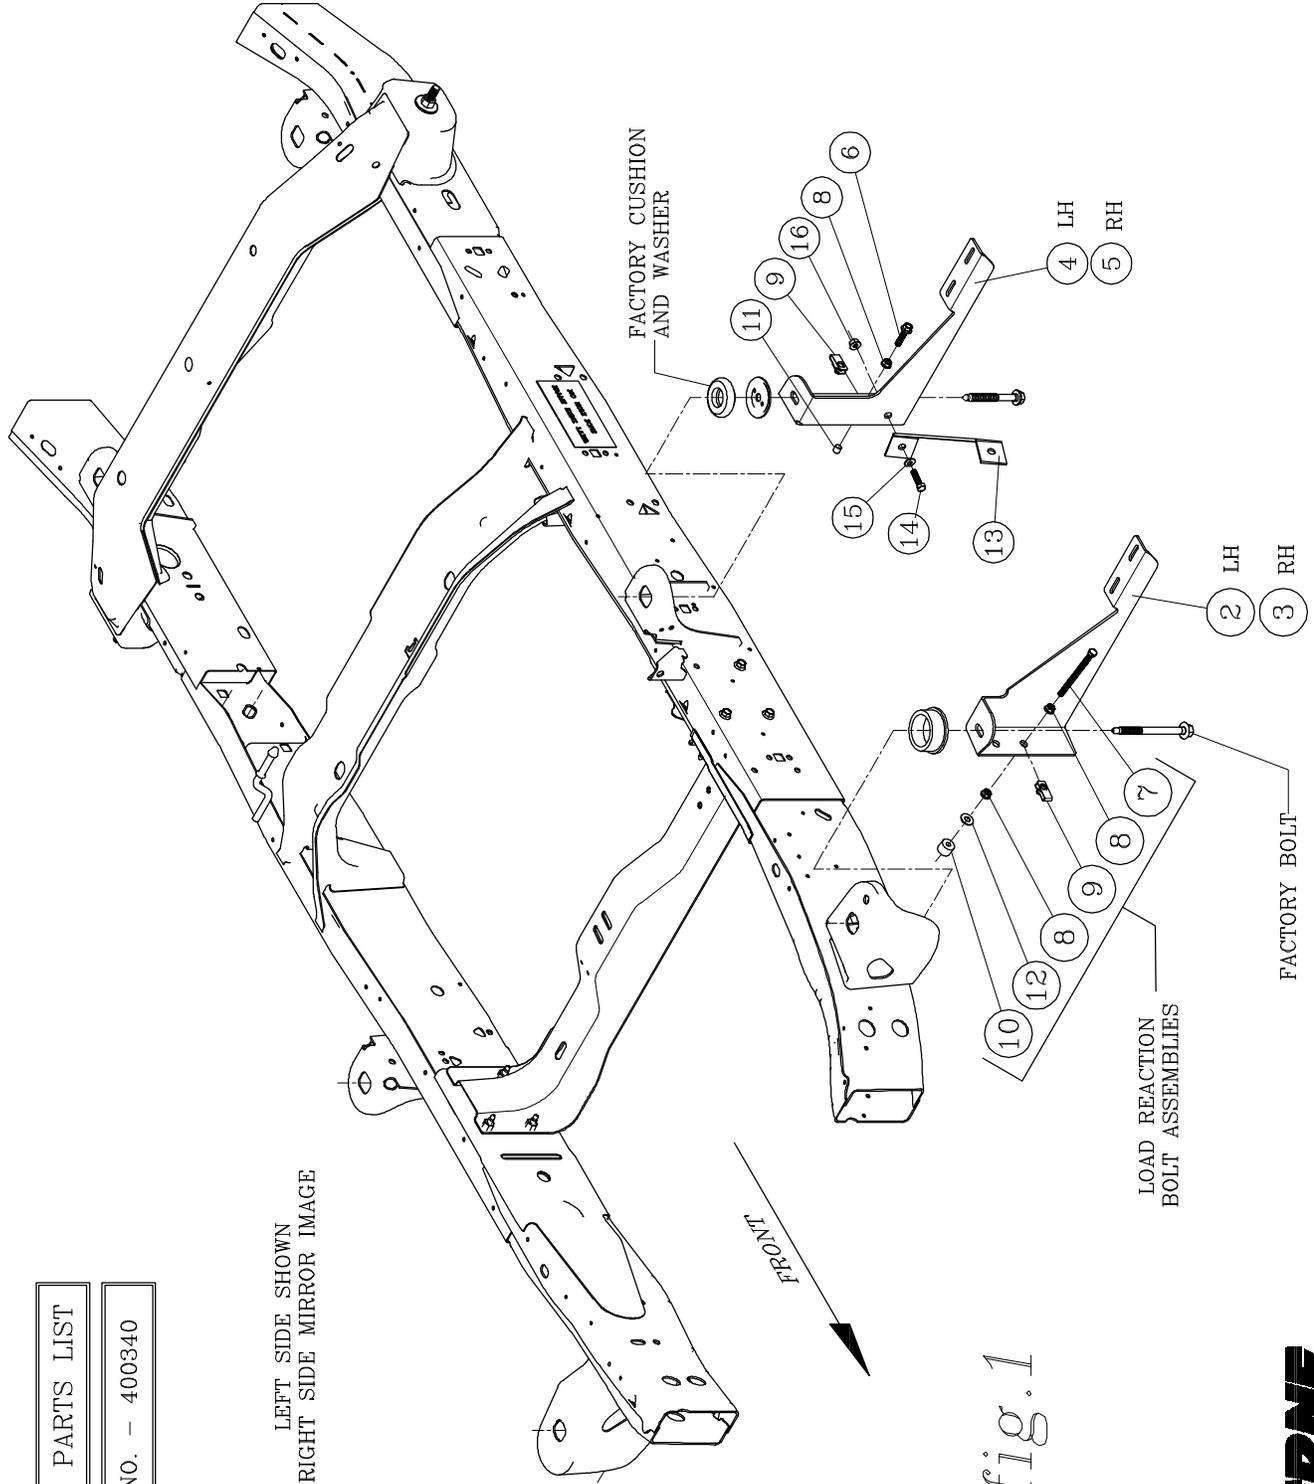

fig.1
4. INSTALL A 3/8"-16 SERRATED FLANGE NUT (ITEM #8) ON THE 3/8"-16 X 5" HEX BOLT (ITEM #7) WITH THE FLANGE FACING TOWARD THE END OF THE BOLT AND TURN ON JUST SHORT OF THE HEAD. SCREW THE BOLT INTO THE U-NUT AND WHEN IT COMES THROUGH THE OTHER SIDE START ANOTHER FLANGE NUT FACING THE SAME DIRECTION AS THE FIRST NUT. TURN THE NUT ON UNTIL THERE IS 11/16" PROTRUDING FROM THE FACE OF THE NUT, INSTALL A 3/8" FLAT WASHER (ITEM #12) AND THE .354 X 1.00 X .748 RUBBER WASHER (ITEM #10) INTO THE END OF THE BOLT. ADJUST THE LOAD REACTION BOLT ASSEMBLY SO THAT THE RUBBER CUSHION IS SNUG AGAINST THE FRAME AND TIGHTEN DOWN THE OUTSIDE FLANGE NUT. (LOAD REACTION BOLT ASSEMBLY) AS SHOWN IN *fig. 1*.
8. INSTALL A 3/8"-16 SERRATED FLANGE NUT (ITEM #8) ON THE 3/8"-16 X 1-3/4" HEX BOLT (ITEM #6) WITH THE FLANGE FACING TOWARD THE END OF THE BOLT AND TURN ON JUST SHORT OF THE HEAD. SCREW THE BOLT INTO THE U-NUT AND WHEN IT COMES THROUGH THE OTHER SIDE ADJUST THE LOAD REACTION BOLT ASSEMBLY SO THAT THE RUBBER PLUG IS SNUG AGAINST THE FRAME AND TIGHTEN DOWN THE OUTSIDE FLANGE NUT. (LOAD REACTION BOLT ASSEMBLY) AS SHOWN IN *fig. 1*.